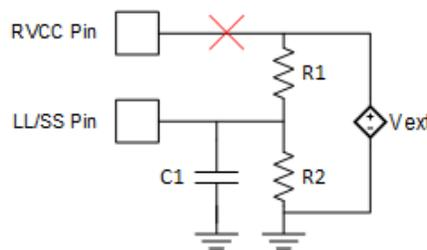

Figure 5. Burst Mode Threshold Tuning Circuit
1. Disconnect the upper resistor on the LL/SS pin resistor divider temporarily from RVCC pin as shown in Figure 5.
2. Connect an external DC voltage source to the upper resistor as shown in Figure 5. Run the system at the desired load condition where the system enters into burst mode, and then tune the DC source voltage to change the burst mode threshold. Record the DC source voltage, V_{ext} , when the system operates at the boundary between burst and non-burst mode. The UCC25630x data sheet *Burst Mode Programming* section has provided the relationship between V_{LL} and BLK pin voltage V_{BLK} . V_{LL} is calculated as: